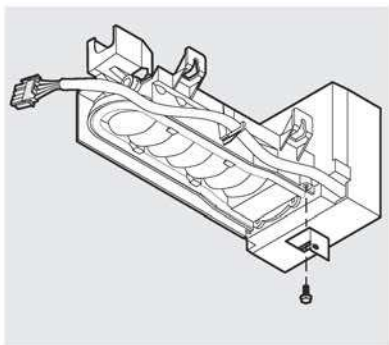

Figure 7
11. Install the adjustable leveling bracket on the bottom of the Ice Maker with a screw (Figure 7). Remove the leveling bracket screw from the ice maker body and insert the bracket between the ice maker body and the plastic heater cover. Re-install the leveling bracket screw but DO NOT tighten bracket at this point. It will be tightened later in this procedure.